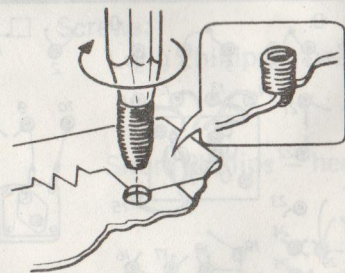

Figure 3
- From the top side of the cardboard panel, install 33 spring terminals into the 33 large, numbered holes. The smaller end of the spring should be at the bottom. To make installation easier, use the pointed end of a pencil or ball-point pen to push the spring through the holes then twist them slightly. (See Figure 3.)